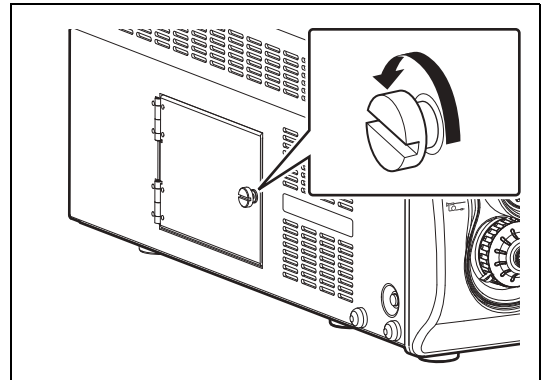

Figure 6.2
- 2 Turn the screw on the lamp protective cover counterclockwise, open the cover, and check the lamp cartridge. (Refer to Figure 6.2.)